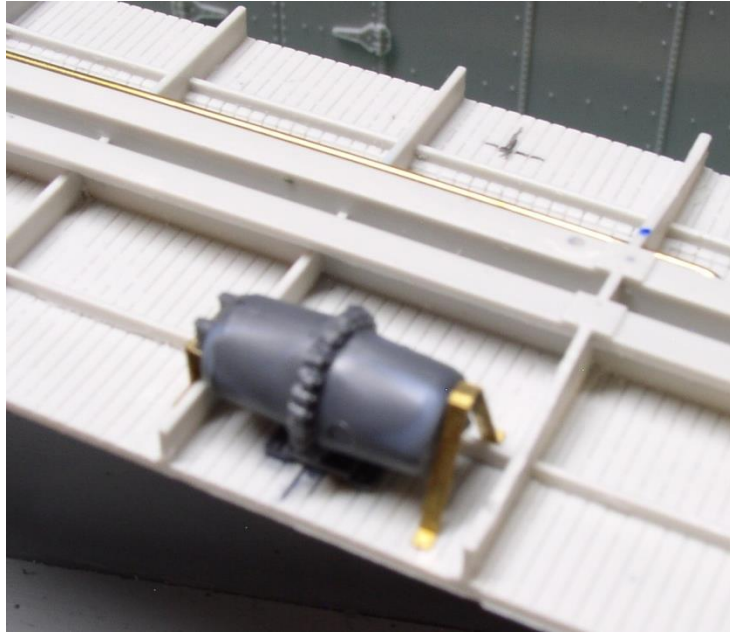

Figure U9
9. Refer to the Etching map and detach the shorter Brake Reservoir Front Bracket and the Brake Reservoir Rear Bracket from the Etch Fret. Using the two etch lines as guides, bend the Front Bracket legs into a 'V' shape. Bend the two little feet on the ends outward so that the etched bolt heads are facing up. Place the vortex over the single lug of the Auxiliary reservoir and glue in place. Bend the top of the Rear Bracket forward and the bottom backward to form a kind of straight 'Z' and attach to the underside of the lip of the centre sill and over the two lugs of the Emergency half. See Figure U9 and U9a.